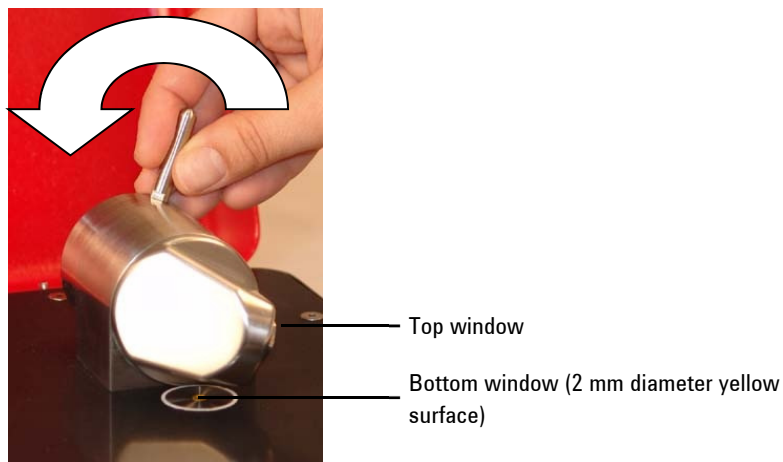

Figure 3. TumbIIR with accessory window facing up
In the sample loading and cleaning mode, the TumbIIR is rotated so the accessory window is facing up (see Figure 3). It is in this position that the sample mounting area can be easily accessed for loading the sample into place and for cleaning the sampling surfaces before the next sample is analyzed.
- 2 Clean the top window first, then clean the bottom mounting window, indicated in Figure 3.
- 1 Open the sampling device (TumblIR) by rotating the arm counterclockwise (see Figure 3).
- 2 Clean the top window first, then clean the bottom window, indicated in Figure 3.